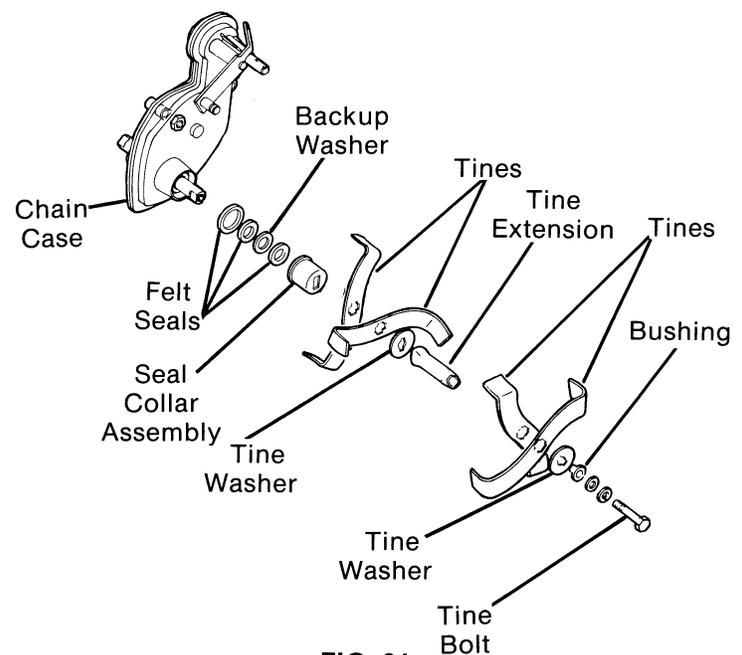

FIG. 21
- J. Remove tine bolts, tine washers, tines, bushings, tine extensions, seal collar assembly, felt seals and backup washers. (Fig. 21)